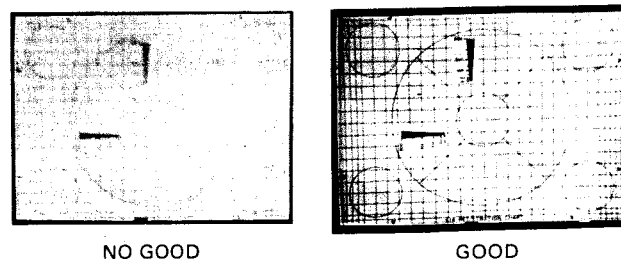

Fig. 5-4-11
- o Repeat adjusting alignment magnets so that the movement of registration chart, especially at the center, on the monitor is minimum. (Fig. 5-4-11)